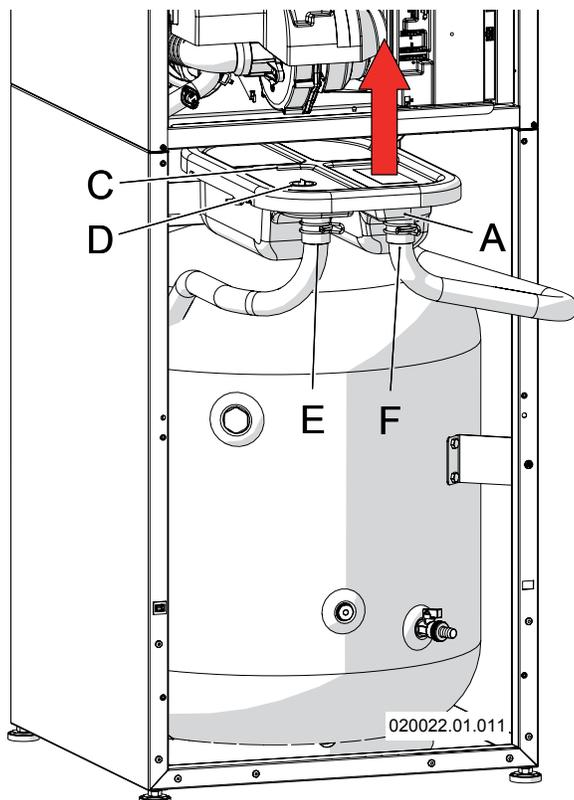

Figure 17-11 Condensate trap and neutralizing box removing
Monitor the level of the neutralization media in the box periodically. The pH can be checked from the test port “D” (Figure 17-11). Check the pH level every three months for the first year. Use a suitable pH test strip paper or an electronic pH meter for precise measurement.
3. place a bucket (Min. 2 gallons) below connection “E” and “F” (Figure 17-11);
4. Disconnect connections “E” and “F” (Figure 17-11);
CAUTION!!! Disconnecting connection “E” and “F” (Figure 17-11) condensate water will immediately exit and must be collected into the presaid bucket. Leaking condensate water may cause severe property damage.
6. open cover “C” (Figure 17-11) in the upper direction;
9. fill with fresh water until the water begins to flow out of drains “E” and “F” (Figure 17-11) ;